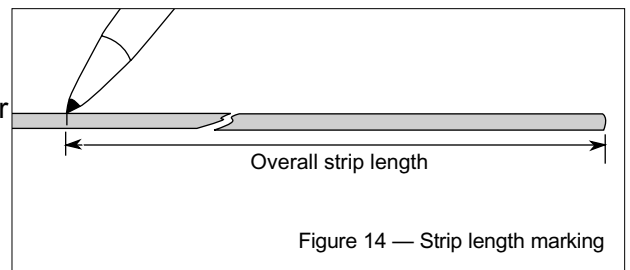

Figure 14 — Strip length marking
Step 1: Determine the strip length required for your hardware or installation. Use a measuring tape and a permanent marker to measure and mark this overall strip length on the cable (Figure 14).